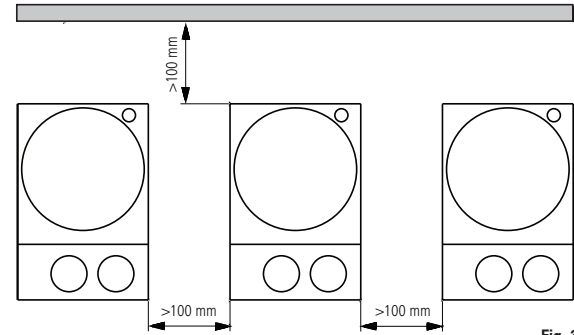

Fig. 3
- Observe the minimum distances (min. 100 mm) between the devices, between device and wall and minimum distances (min. 800 mm) above the assembly, see fig. 3.